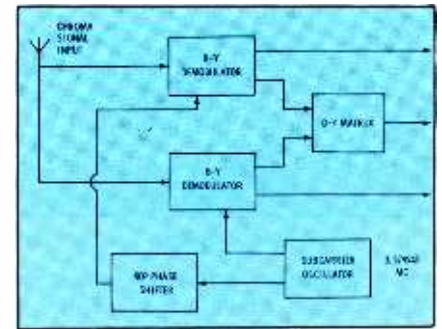

Fig. 6. The block diagram of a typical chroma section used in a color receiver.
Let us see how the system works. The chroma demodulators in a color-TV receiver are phase detectors. Fig. 6 shows a block diagram of a typical chroma section. If you apply an R-Y signal to the R-Y demodulator, full output is obtained; a B-Y signal applied to the R-Y demodulator will give zero output. Again, if you apply a B-Y signal to the B-Y demodulator, full output results; an R-Y signal applied to the B-Y demodulator will give zero output. Finally, if you apply a G-Y signal to the R-Y and B-Y demodulators, full output is obtained from the G-Y matrix; a G-Y/ $90^\circ$  signal fed to the R-Y and B-Y demodulators will provide zero output from the G-Y matrix.
1. Connect a scope and low-C probe to the output of the R-Y demodulator (Fig. 6).